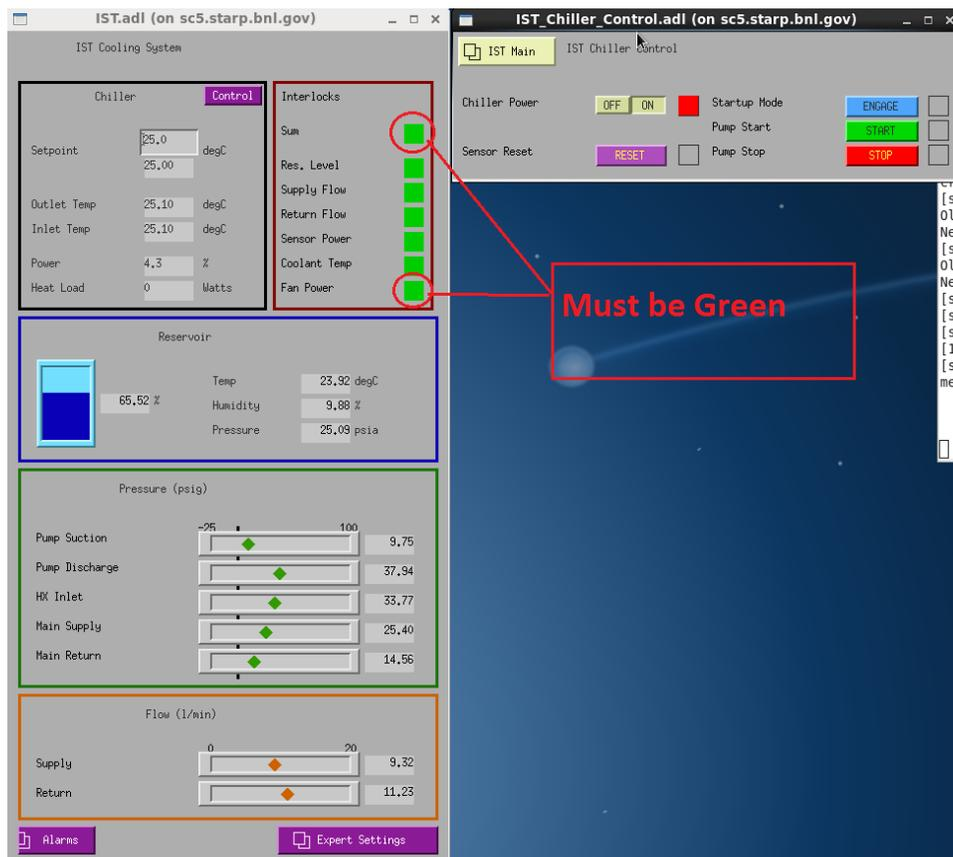

Figure 9 IST cooling system GUI
**IMPORTANT Note:** Before turning on the IST, Be sure IST cooling systems is ON (Refer to Figure 9). Please check with the shifter leader and the detector status spreadsheet that show when it should be on/off and when it is safe to turn on IST (e.g., make sure that there will be NO change in the beam condition when IST is on). Please remember that the IST is at risk when it is ON. So unless it is absolutely necessary (e.g., physics data taking or calibration), the IST should be in OFF status.